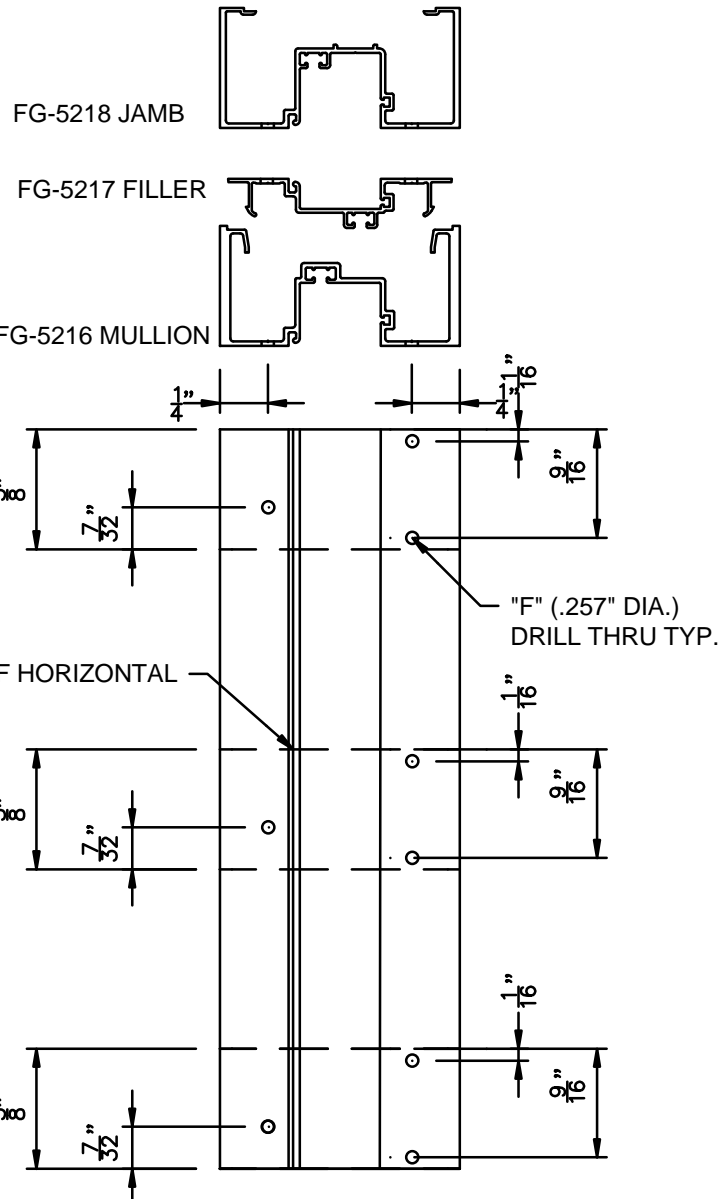

Figure 1
NOTE : refer to 1.3 and figure 1 for hole pattern at head,sill and horizontals.
- 2.2.3 Attach horizontals to verticals using (3)FS-8 (#14 x 1" sts spline screws) Trim excess sealant tape at joints with razor knife. DO NOT PULL TAPE TO TRIM. See sheet 4 figure 1 for hole prep locations.